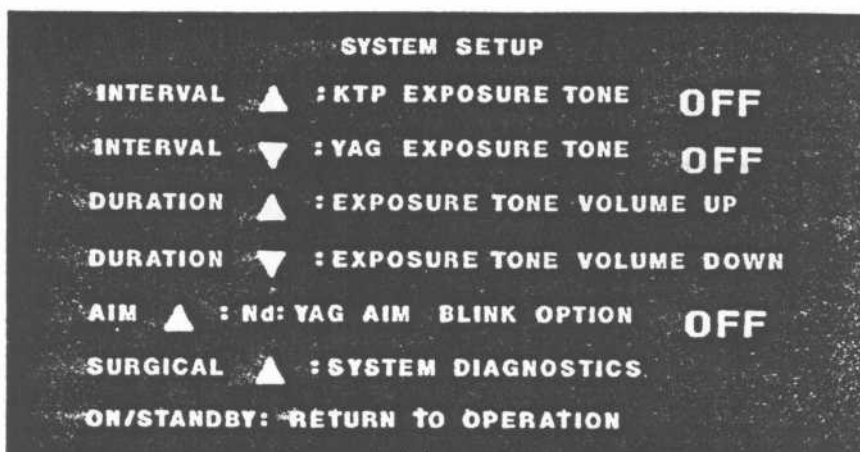

Figure 4-2. Screen for System Setup
- SSETUP** Brings the System Setup screen onto the CRT display, (see Figure 4-2).